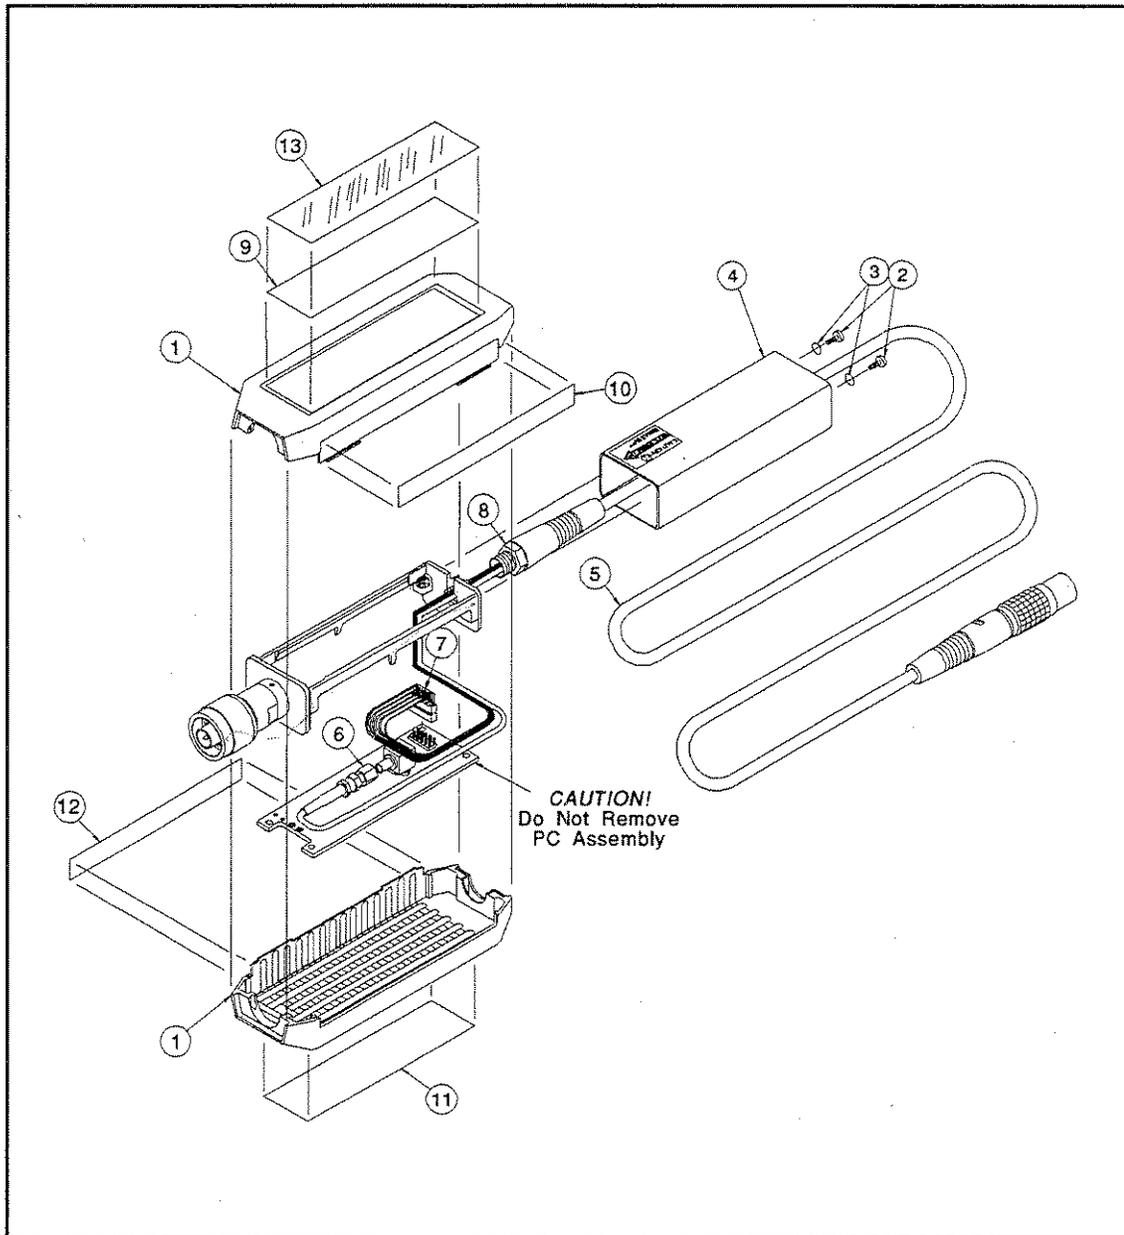

Figure 5-3. Cable Replacement
4. Refer to Figure 5-3. Remove two screws ② from the sensor shield ④.
5. Slide the sensor shield ④ over the sensor cable and expose the sensor interior.
6. With your 15/64 in. wrench unscrew the SMC nut ⑥ from the PC board.
7. With your fingers pull the connector ⑦ free from the PC board.
8. With your 7/16 in. wrench unscrew the cable nut ⑧.
9. Pull the sensor shield ④ free of the cable.
10. Slide the sensor shield ④ over the new cable.
11. Tighten cable nut ⑧ to 25 in·lbs (282.5 N·cm).
12. Place a drop of “Blue Loctite™” (not shown) on the exposed threads of ⑧.
13. Place connector ⑦ on the PC board.
14. Tighten nut ⑥ to 4 in·lbs (45 N·cm).